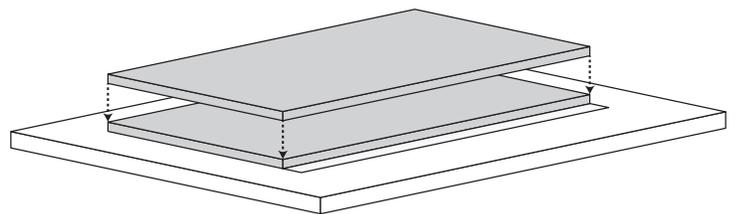

FIGURE 16.4
STEP 4 (FIGURE 16.4): Place the second board on top of the first board. **Do not mortar the boards together.**